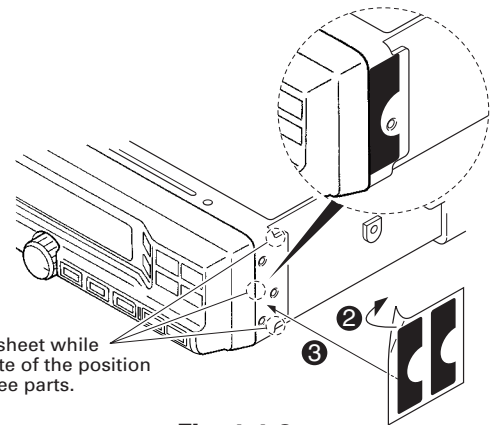

Fig. 1-1-2
4. Affixing the sheet (G11-4379-04) for the waterproof (Fig.1-1-2).
- (1) Remove the covering paper of the sheet (2).
- (2) Affix the sheet while taking note of the position of the three parts as shown in Fig.1-1-2 (3).